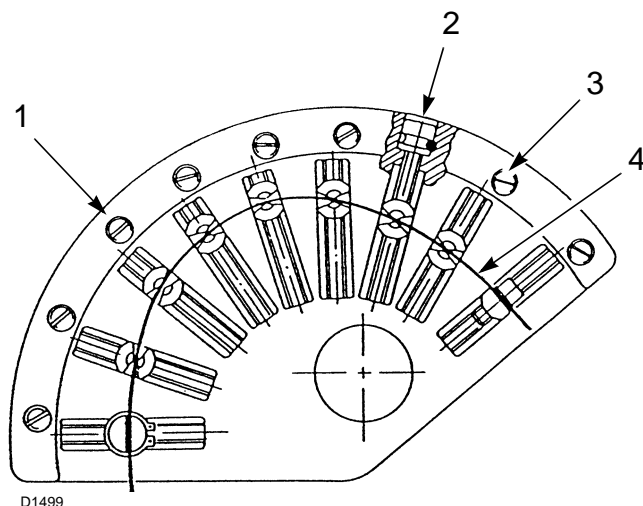

Fig. 36
Progressively adjust the starting profile of cam 1)(Fig. 36) by turning the screws 2)(Fig. 36).
For improved adjustment repeatability, make sure you stop rotation of the cam assembly when the upper bearing running on the profile 4)(Fig. 36) is aligned with one of the adjusting screws 2) (Fig. 36).
Tighten or loosen the preselected screw 2)(Fig. 36) to increase or decrease airflow so as to adapt it to the corresponding gas flow.
Once output adjustments (maximum, medium and intermediate) have been carried out, it is important you secure all the air regulation screws 2)(Fig. 36) with the locking screws 3)(Fig. 36) so as to prevent possible shifting of air-gas setting positions.
Key (Fig. 36)
turn the threaded regulators 2)(Fig. 36) after loosening the screws 3)(Fig. 36).
adjust set screws 2)(Fig. 36) after loosening the screws 3) (Fig. 36).
- Proceed with setting the air delivery by adjusting the variable profile cam, by turning the screws 2)(Fig. 36).
- When perfect adjustment has been reached, remember to block the adjustment screws of the cam profiles by tightening the screws 3)(Fig. 36).